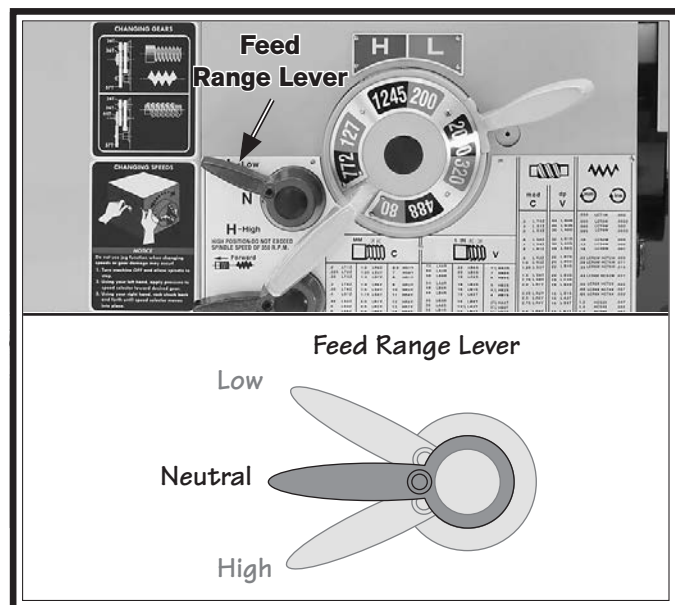

Figure 24. Feed range lever.
6. Disengage the quick-change gearbox by moving the feed range lever to the neutral (middle) position, as illustrated in **Figure 24**.